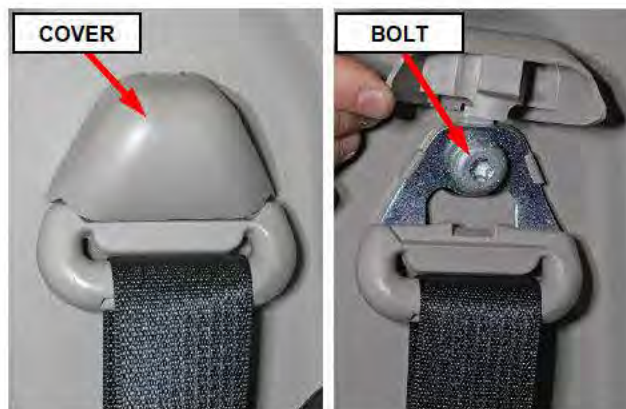

Figure 28 – Seat Belt Turning Loop
23. On the C-pillar, lift the seat belt turning loop cover then remove the turning loop bolt (Figure 28).
57. Using a **NEW** bolt and reusing the spacer, install the turning loop then tighten the bolt to 40 N·m (30 ft. lbs.) (Figure 28).
58. Install the seat belt turning loop cover (Figure 28).